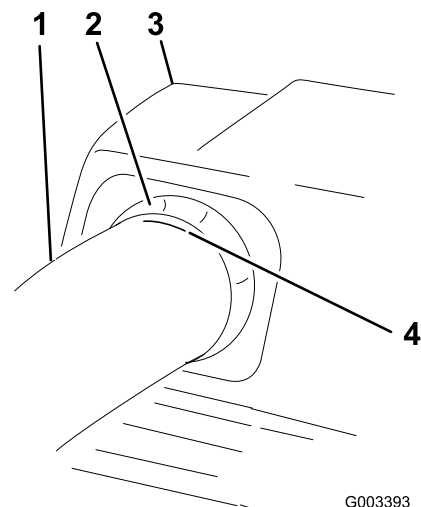

Figure 21
6. Once the 19 mm (3/4 inch) measurement has been achieved, mark the upper tube on the outside where the rubber seal protrudes out (Figure 21).
Check to make sure that the mark from Figure 21 is still in place.